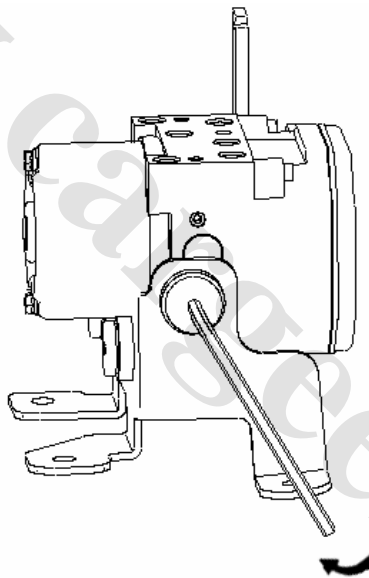

Fig. 3-14
(6) Assemble the wet HECU and bracket with a 5mm tool (hexagonal wrench) by tightening the 3 inserted nuts M6 in clockwise direction, as shown in Fig. 3-14.